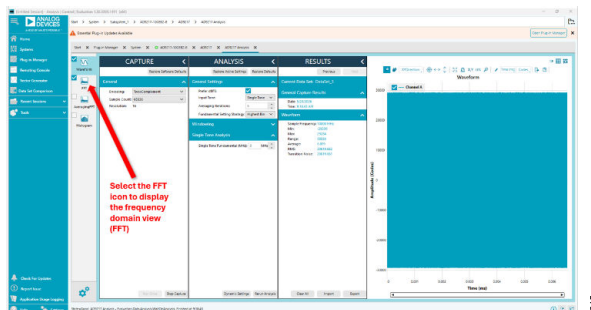

Figure 15. FFT Icon
16. Click the **FFT** icon (see Figure 15) to display the frequency domain view (FFT).